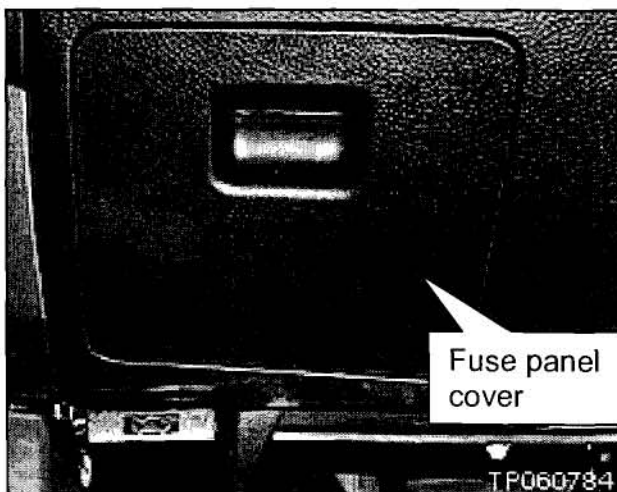

Figure 5
10. Disconnect the 4 connectors shown in Figure 5 from the lower trim panel.